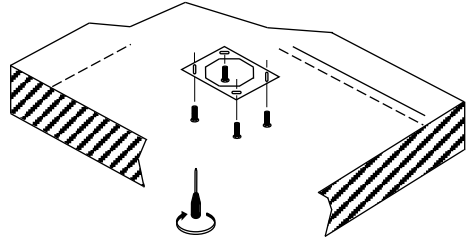

Fig 5
3. Fix the ceiling bracket to the ceiling using the screws provided (Fig 5).